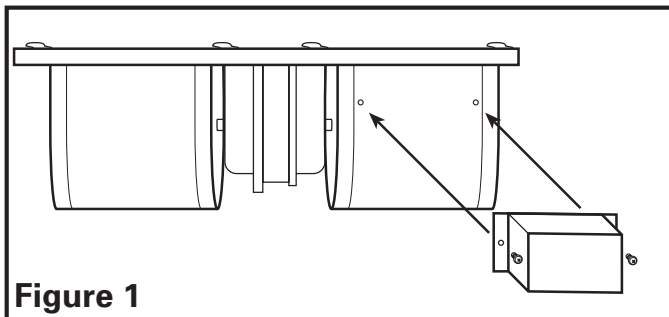

Figure 1
2. Position capacitor attached to motor over center mounting hole in face of blower and fasten in place using (1) # 6 screw. Position the capacitor cover over the capacitor and fasten in place using (2) # 6 screws (**Figure 1**).